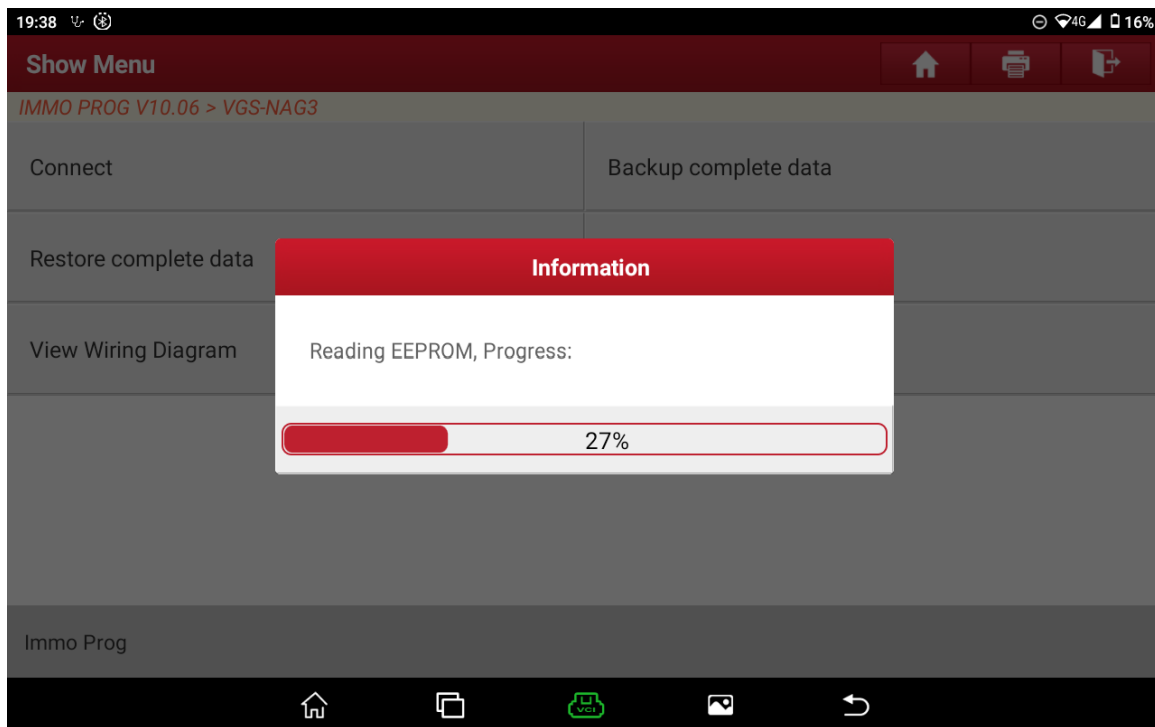
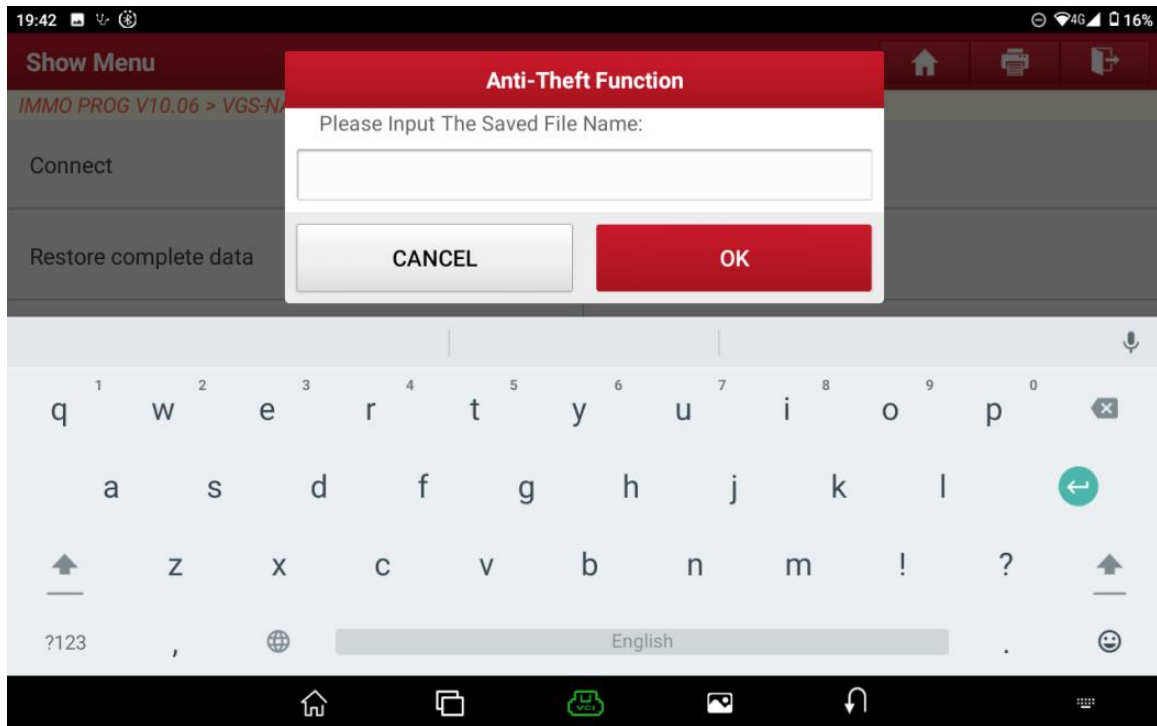

Figure 8
Figure 10
- Click [OK] and then click [Backup complete data] as shown in Figure 8 and 9, to backup and save the internal data of original gearbox as shown in Figure 10 and 11;